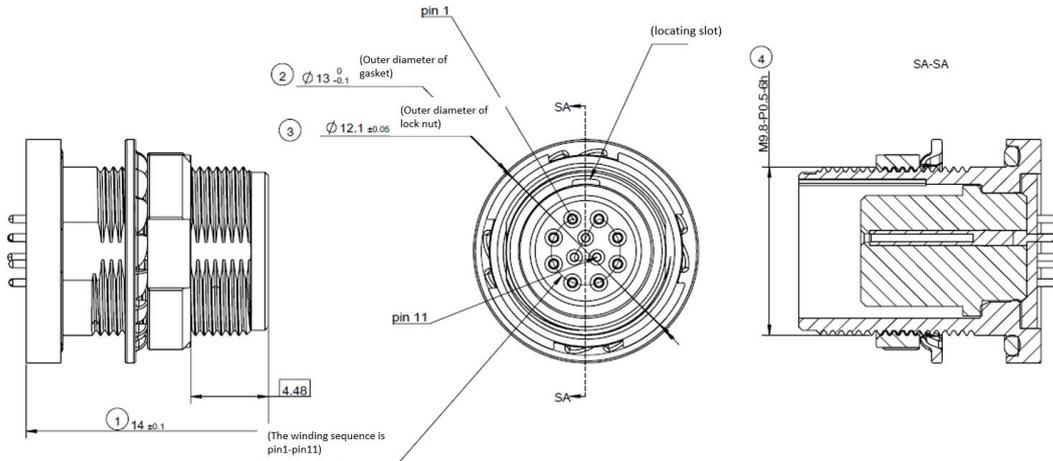

Figure 7 Aviation Plug Interface Pin Numbers
- 1) The GPS_REC interface specification on the Airy power box is SM2.54 male connector, the pin definitions are shown in Figure 7 ;
The cable aviation plug on the Airy LiDAR side is shown in Figure 7 .